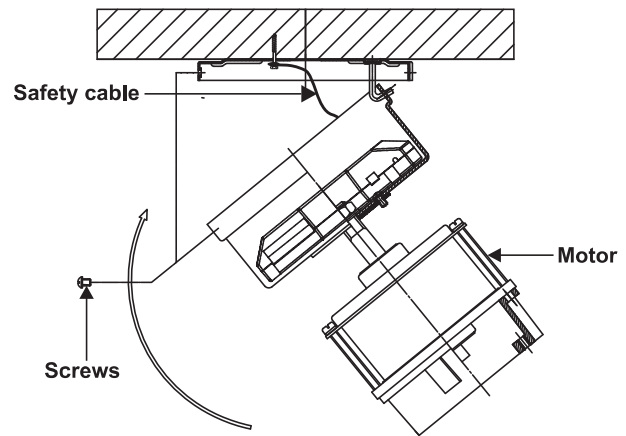

Figure 7
Step 1. Move fan motor into position over the four mounting holes and secure with the four screws provided. (Fig. 7)
Step 2. An additional safety support is provided to prevent the fan from falling. Secure the safety cable to the ceiling joist with screw and washer. (Fig. 7)